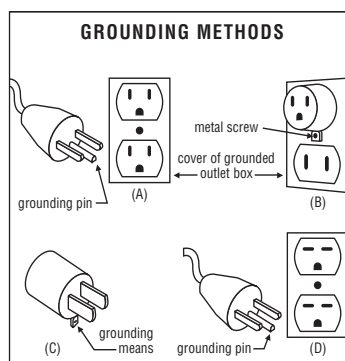

Figure 1
This tool should be grounded while in use to help protect the operator from electric shock. The tool is equipped with a 3-conductor cord and 3-prong grounding type plug to fit the proper grounding type receptacle. The green (or green and yellow) conductor in the cord is the grounding wire. Never connect the green (or green and yellow) wire to a live terminal. If your unit is for use on less than 150 V, it has a plug that looks like that shown in sketch (A) in Figure 1. If it is for use on 150 to 250 V, it has a plug that looks like that shown in sketch (D). An adapter, see sketches (B) and (C), is available for connecting sketch